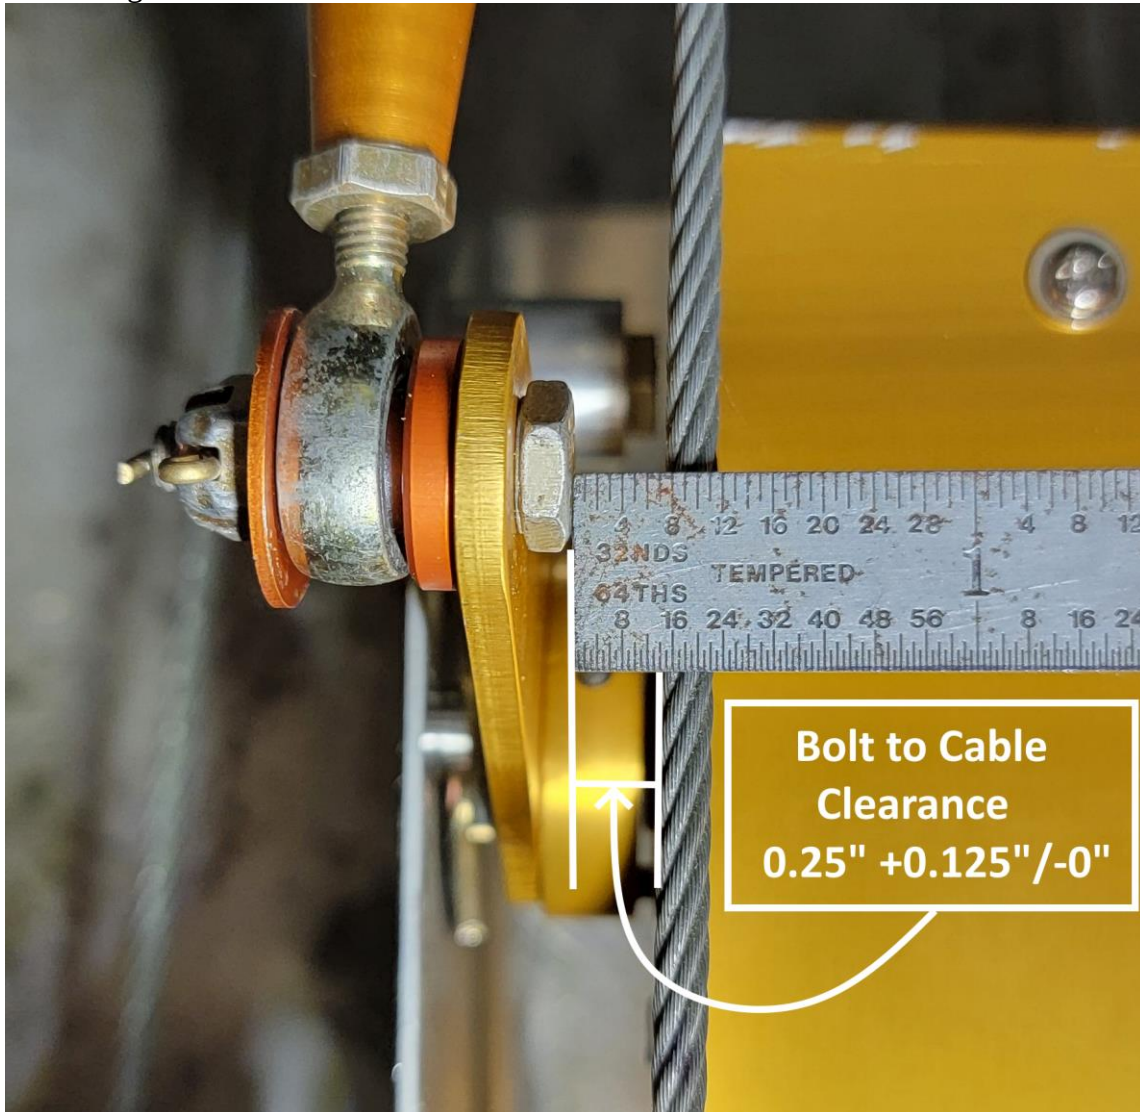

FIGURE C- 3 BOLT TO CABLE CLEARANCE
2. With just the bolt in the servo arm and the servo arm facing up 90 degrees from the baseplate, use a scale to measure the distance between the edge of the elevator cable and inboard surface of the servo arm bolt. Slide the bracket left or right to achieve the $0.25'' +0.125''/-0''$ tolerance as shown in Figure C-3.